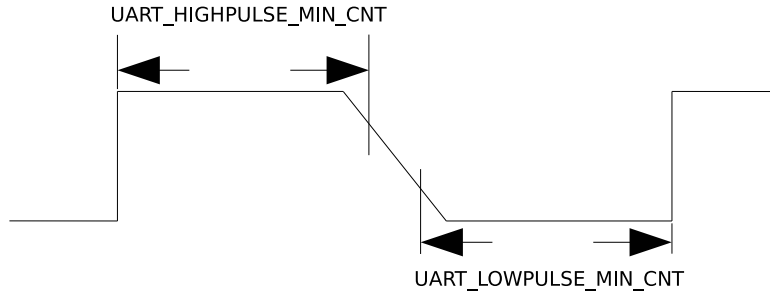

Figure 9-4. The Timing Diagram of Weak UART Signals Along Falling Edges
2. If UART signals are weak along falling edges as shown in figure 9-4, which leads to inaccurate average of `UART_LOWPULSE_MIN_CNT` and `UART_HIGHPULSE_MIN_CNT`, use `UART_POSEDGE_MIN_CNT` to determine the transmitter's baud rate as follows: